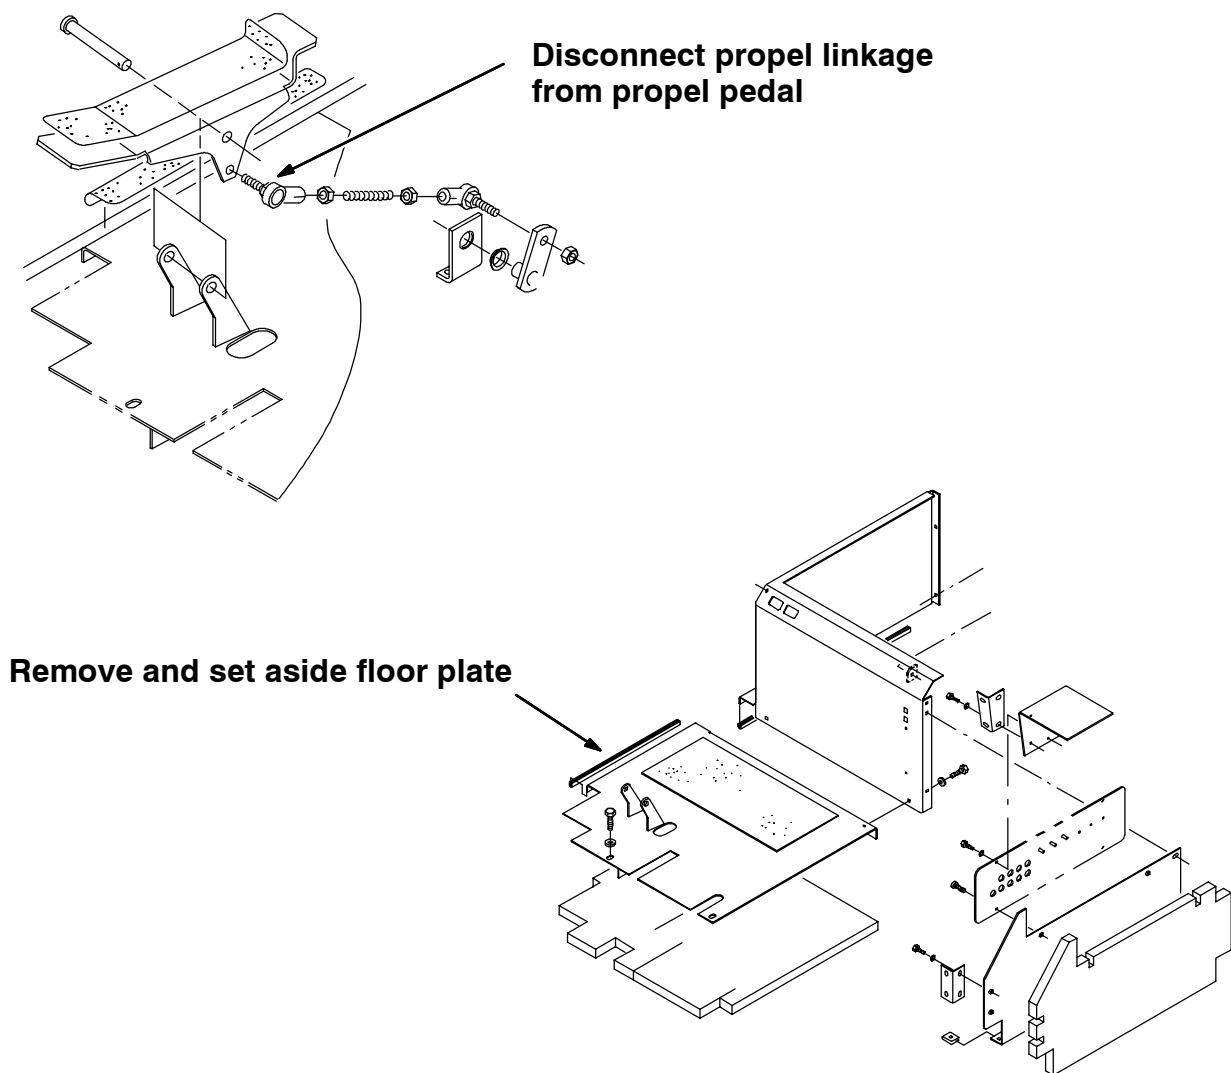

FIG. 1 - FLOOR PLATE REMOVAL
(Refer to FIG. 1, 2 and 3)
4. Disconnect the propel pedal linkage from the propel pedal. (Refer to FIG. 1)
5. Remove and set aside the floor plate and mounting hardware from the operator's compartment. (Refer to FIG. 1)
7. Replace the floor plate and secure with the set aside mounting hardware. (Refer to FIG. 1)
8. Reconnect the propel pedal linkage to the propel pedal. (Refer to FIG. 1)